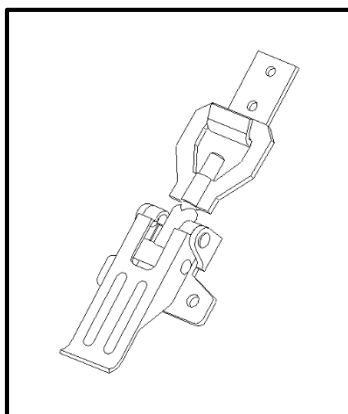

Figure 11.2.1
1. The clamp set (No 2) contains the clamp and the attaching plate and they can't be ordered separately (fig. 11.2.1).